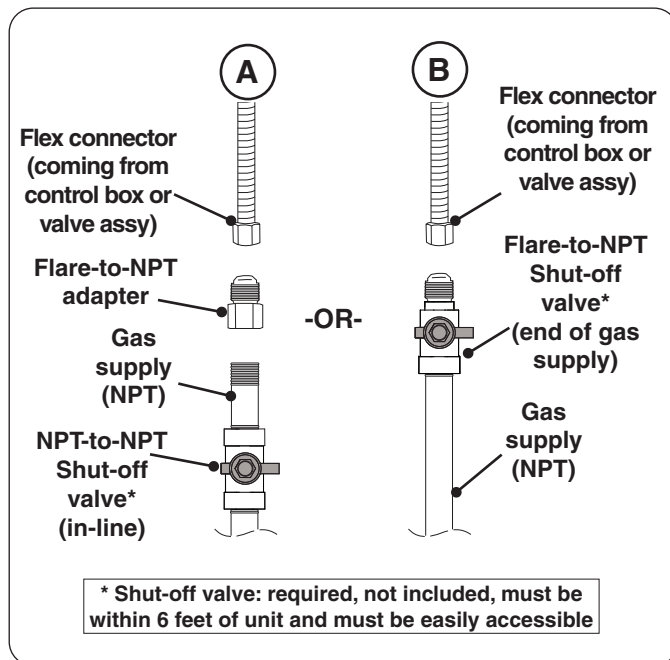

Fig. 19-1 Connecting to a gas line
- Install the supplied flare-to-NPT adapter to the gas supply (NPT) using a pipe joint compound resistant to all gasses (see Fig. 19-1, A). Tighten securely.
- Connect the flex connector to the adapter (see Fig. 19-1, A). Tighten securely.
- Connect the flex connector to the shut-off valve (flare)(see Fig. 19-1, B). Tighten securely.